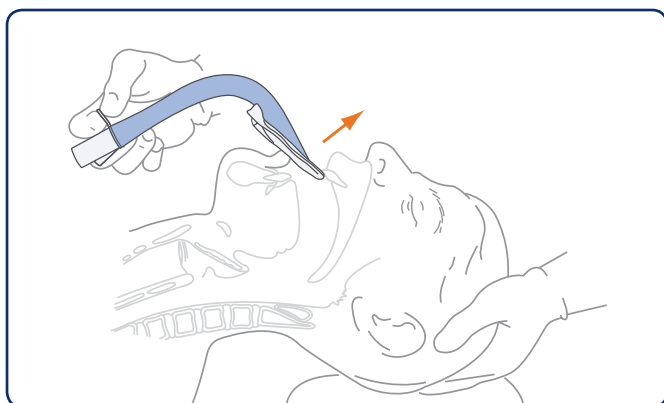

Figure 7: Press the tip of the mask against the hard palate
4. Hold the device exactly as shown in Figure 7.